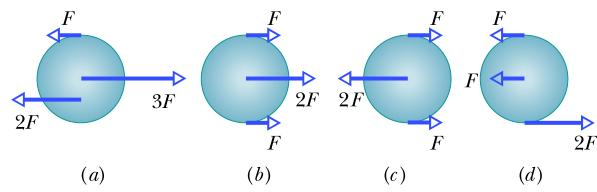

Figure 12.3 Question 3.
- 3 Figure 12.3 shows four overhead views of rotating uniform disks that are sliding across a frictionless floor. Three forces, of magnitude  $F$ ,  $2F$ , or  $3F$ , act on each disk, either at the rim, at the center, or halfway between rim and center. The force vectors rotate along with the disks, and, in the “snapshots” of Fig. 12.3, point left or right. Which disks are in equilibrium?